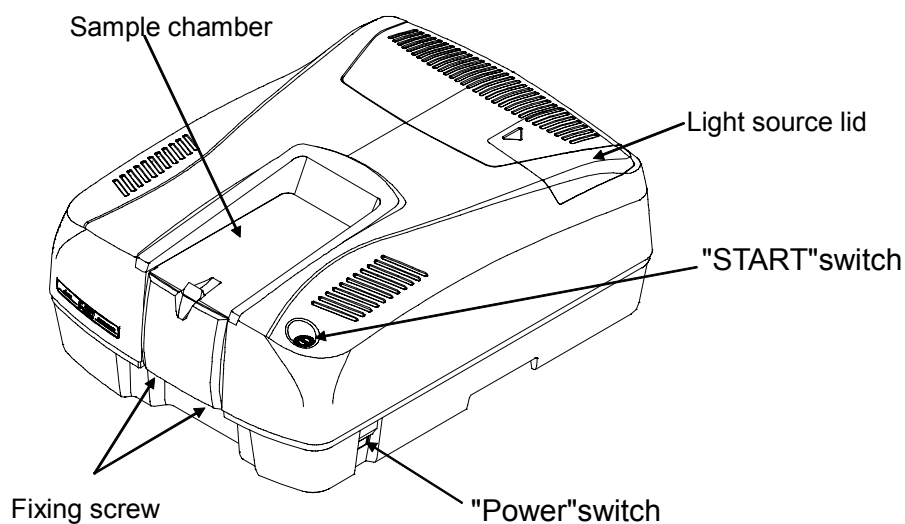

Figure 2.1 Spectrophotometer (V-650/660/670)
(1) Turn off the power to the PC and monitor. Do not forget to turn off the monitor.
(2) Make sure that the sample compartment is empty and turn off the power to the spectrophotometer (see Fig. 2.1).